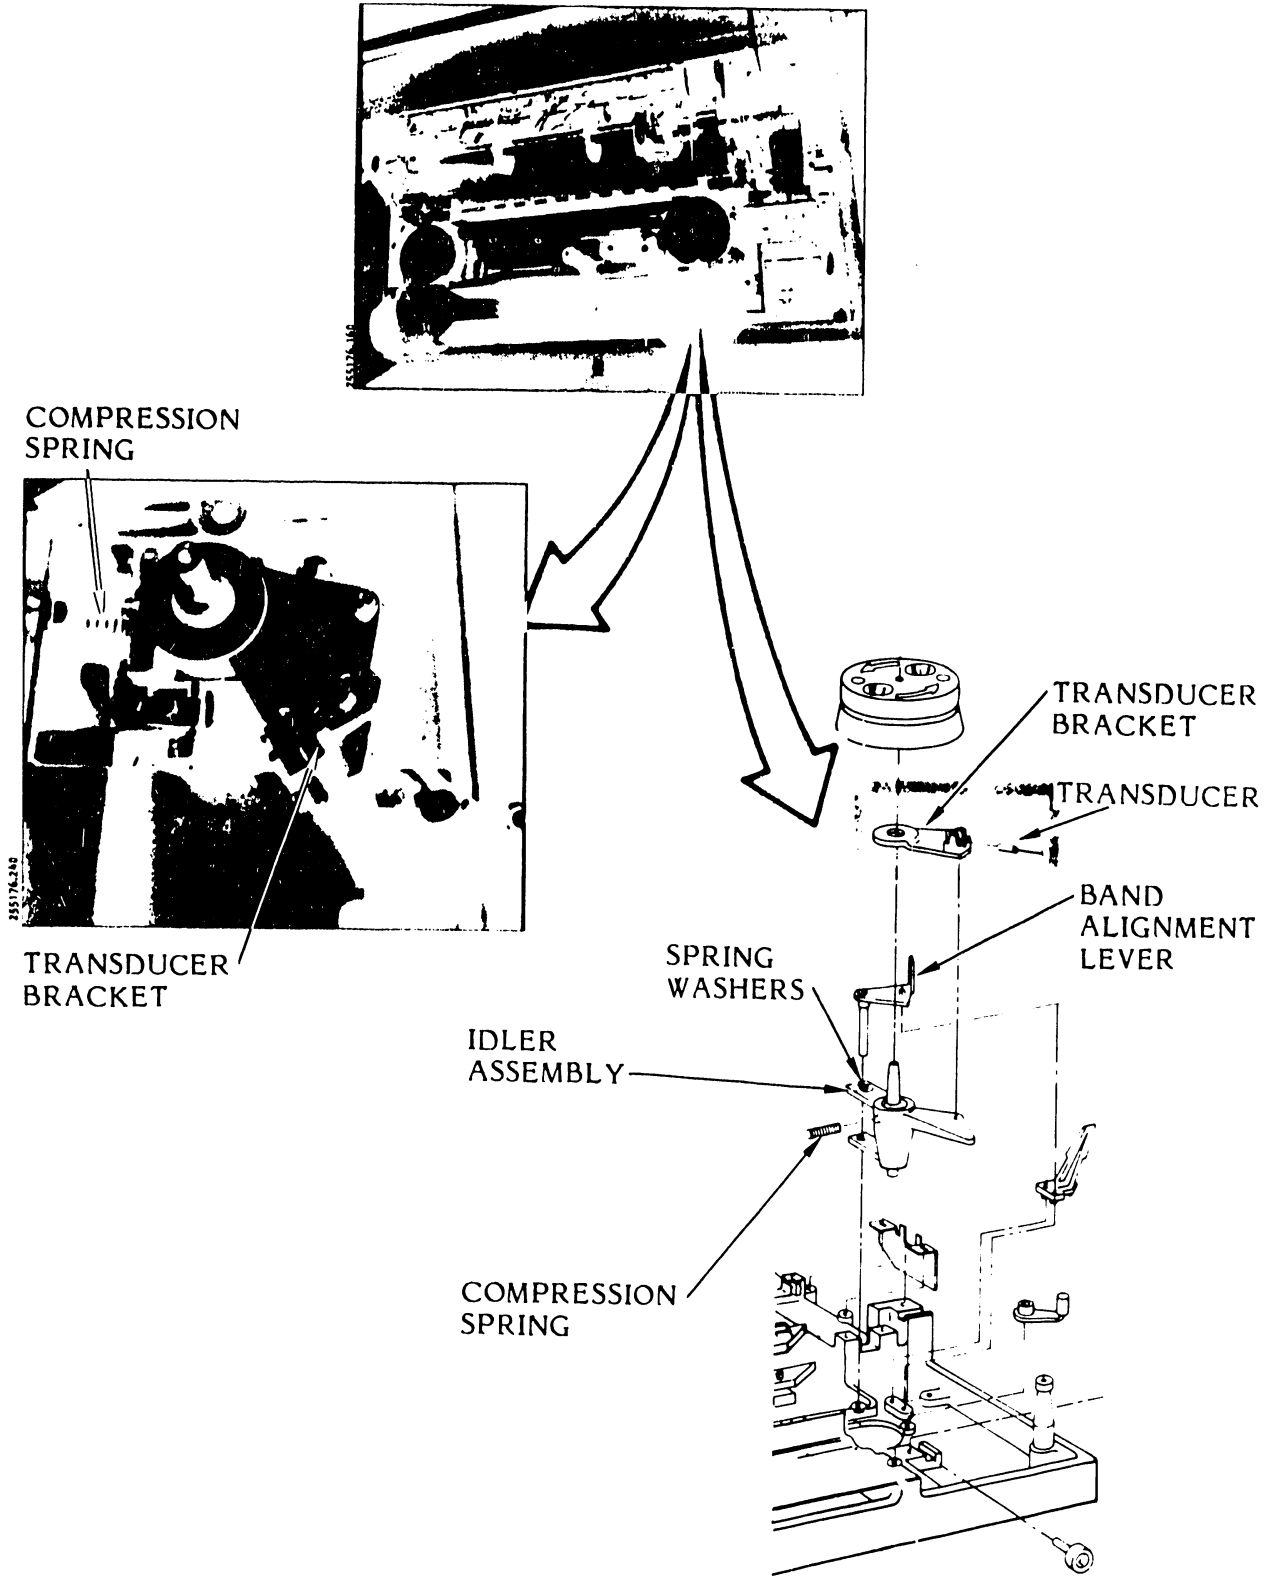

Figure 3-84. Band Idler Pulley/Shaft Assembly (O-Ring System) Removal/Installation
3.7.14 Band Idler Pulley Shaft Assembly (O-Ring System) Removal/Installation (Figure 3-84)